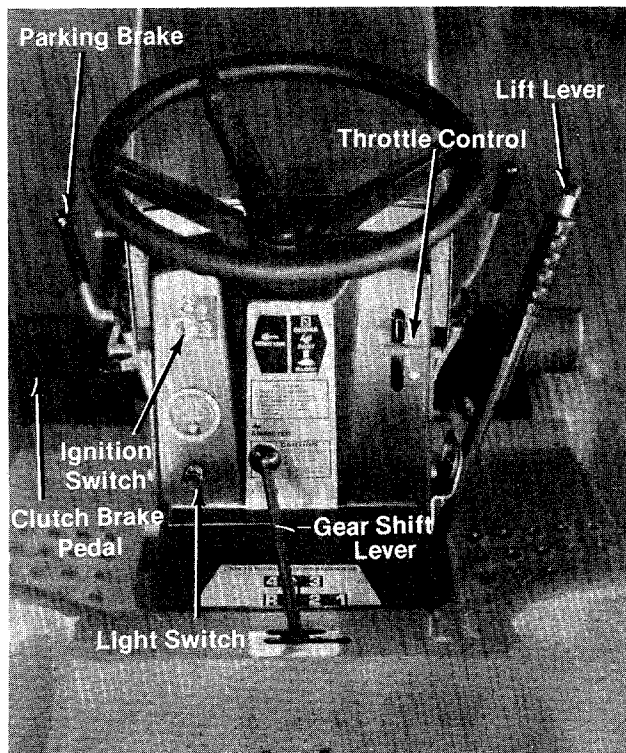

FIGURE 13
a. Throttle control. The throttle control is used to regulate the engine speed and choke the engine. The engine should be operated from $\frac{3}{4}$ to full throttle when operating the cutting deck or snow thrower. (Optional) (See figure 13.)
b. Gear Shift Lever. Use the following guide for gear selection. See figure 13.
d. Clutch-Brake Pedals Depress both of them all the way down to stop or shift gears. Release pedals slowly to engage. See figure 13.
g. Ignition Switch. Turn the switch all the way to the right to engage the starter. As soon as the engine starts, release the ignition key so that the starter is switched off. Turn the key to the left to shut off the engine. See figure 13.
h. Light Switch. Pull the light switch out to turn on the lights. The ignition switch must be on to operate the lights. See figure 13.
i. Ammeter. The ammeter registers the rate of battery charge or discharge. The ammeter should register on the plus (+) side when the engine is running in the fast position until the battery is completely charged. With a fully charged battery or with the engine idling the ammeter will not show a charge. See figure 13.
Step 2. With the machine set on level ground place the gear shift lever in **NEUTRAL (N)** position. See figure 13.
Step 5. Set the throttle control in the **CHOKE** position. See figure 13.
Step 6. Turn the ignition key to the right to **START** position to start the engine. Allow the key to return to the **ON** position. See figure 13.
To stop the rider from moving forward or backward, depress the clutch-brake pedals. See figure 13.